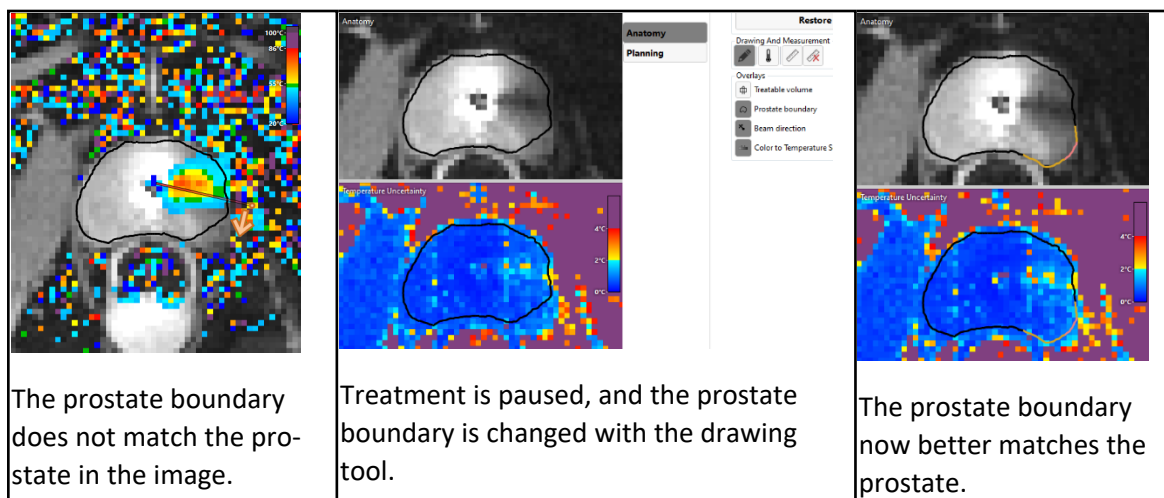

Figure 51: Editing the prostate boundary
3. Click the drawing tool. The TDC displays a new pane showing the prostate boundary contour and the temperature uncertainty for the selected slice (Figure 51).